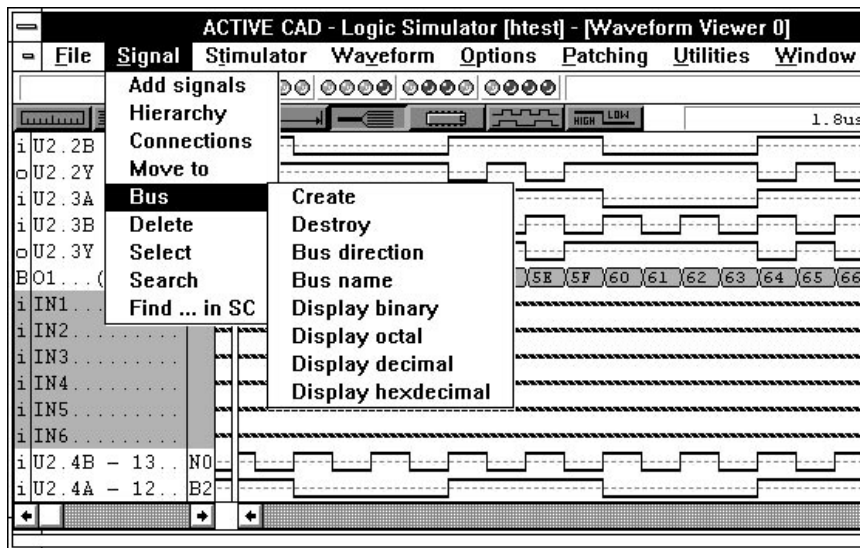

Figure 2-15. Defining a bus.
The bus operations menu is shown in Figure 2-15:
To toggle between discrete signals and the hex bus representation, click on the bus button  in the **Waveform Viewer** window tool bar (#5 in Figure 2-2). To permanently deselect a bus, click on a bus and select the **Destroy** bus option from the **Bus** submenu shown in Figure 2-15. The entire bus will instantly be converted back to discrete signal lines.
- ☐ Select the **Connections** option from the **Signal** menu in Figure 2-15.